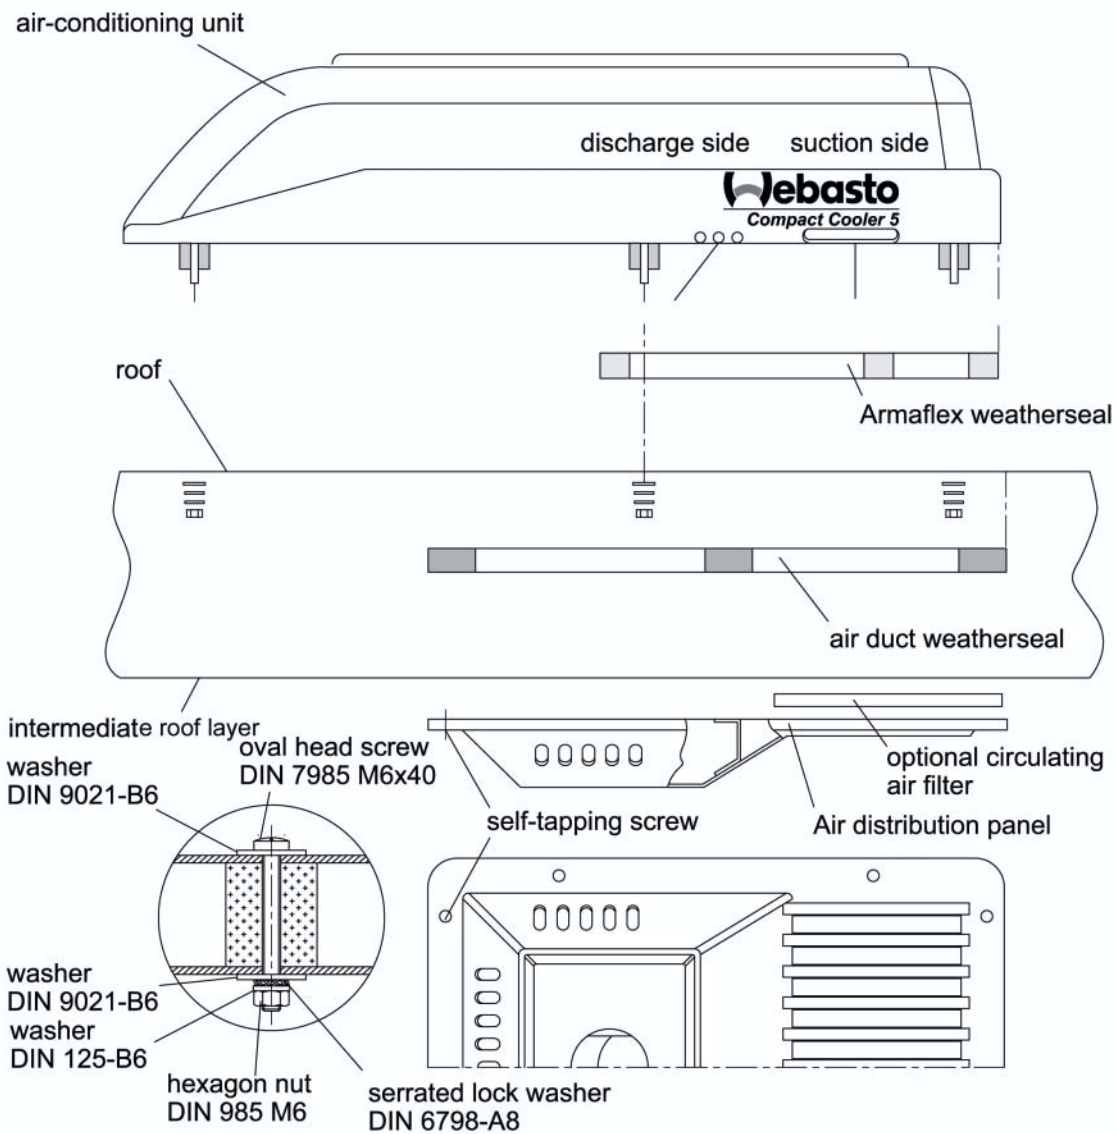

Fig. 4.9
- b) Position the base plate on the roof (weatherseal), align it, position spacer discs underneath the six fixing points and put the six M6 screws (with washers) through the holes (Fig. 4.9).
- Position the air distribution panel as shown in Fig. 4.9 and secure to the intermediate ceiling or to suitable, self-made mounting brackets using ten self-tapping screws. If the optional circulating air filter has been ordered, it must be inserted in the intake area of the air distribution panel.